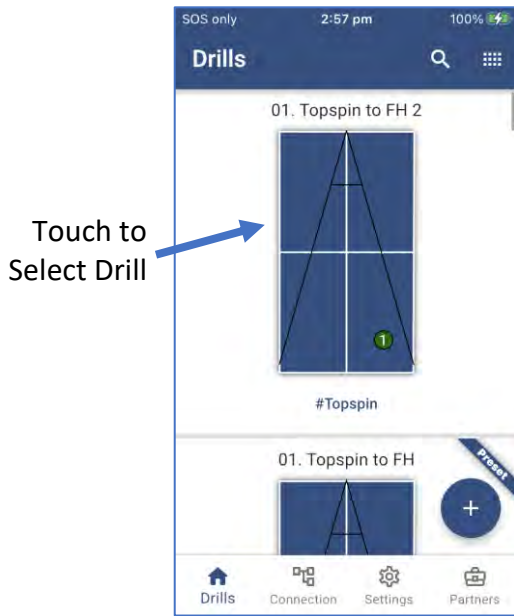

Figure 3-41
- From the main Drill screen, select the Drill called “01. Topspin to FH 2”. by touching/pressing the drill name or table icon below the name. (Figure 3-41)